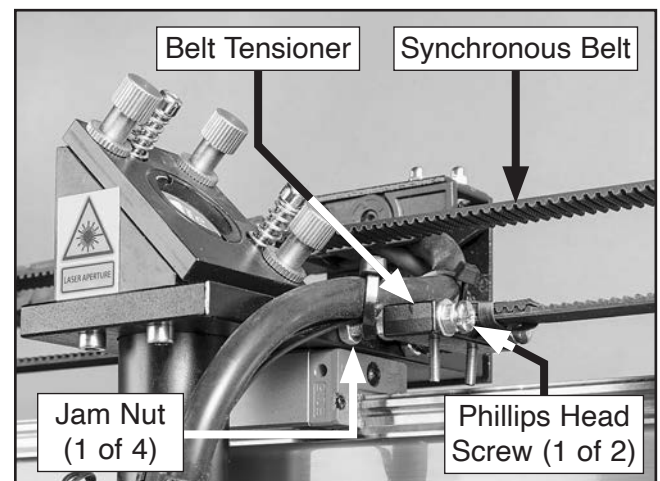

Figure 73. X-axis belt tensioner components.
4. To adjust belt tension, loosen (4) jam nuts on belt tensioner, loosen or tighten (2) Phillips head screws, then secure jam nuts (see **Figure 73**). Repeat **Step 3**.